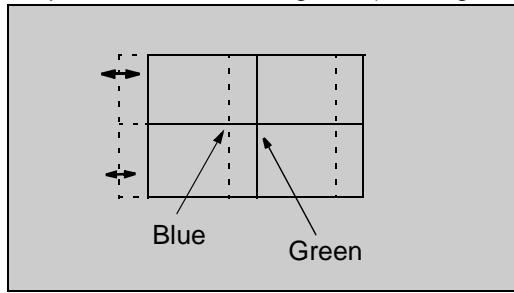

Figure 45. B-STATIC adjustment
38. Adjust B-STATIC so that the center of blue overlaps with the center of green (See Figure 45).